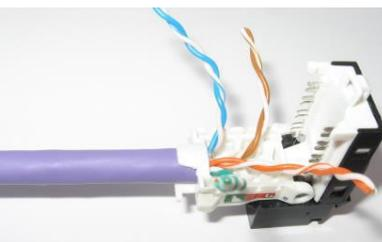
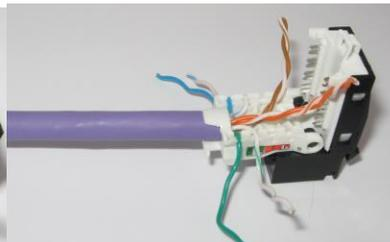

Fig.5
Fig.6
3.5) Position each pair to appropriate slots according to wiring scheme. (Fig. 5, Fig. 6, Fig. 7)